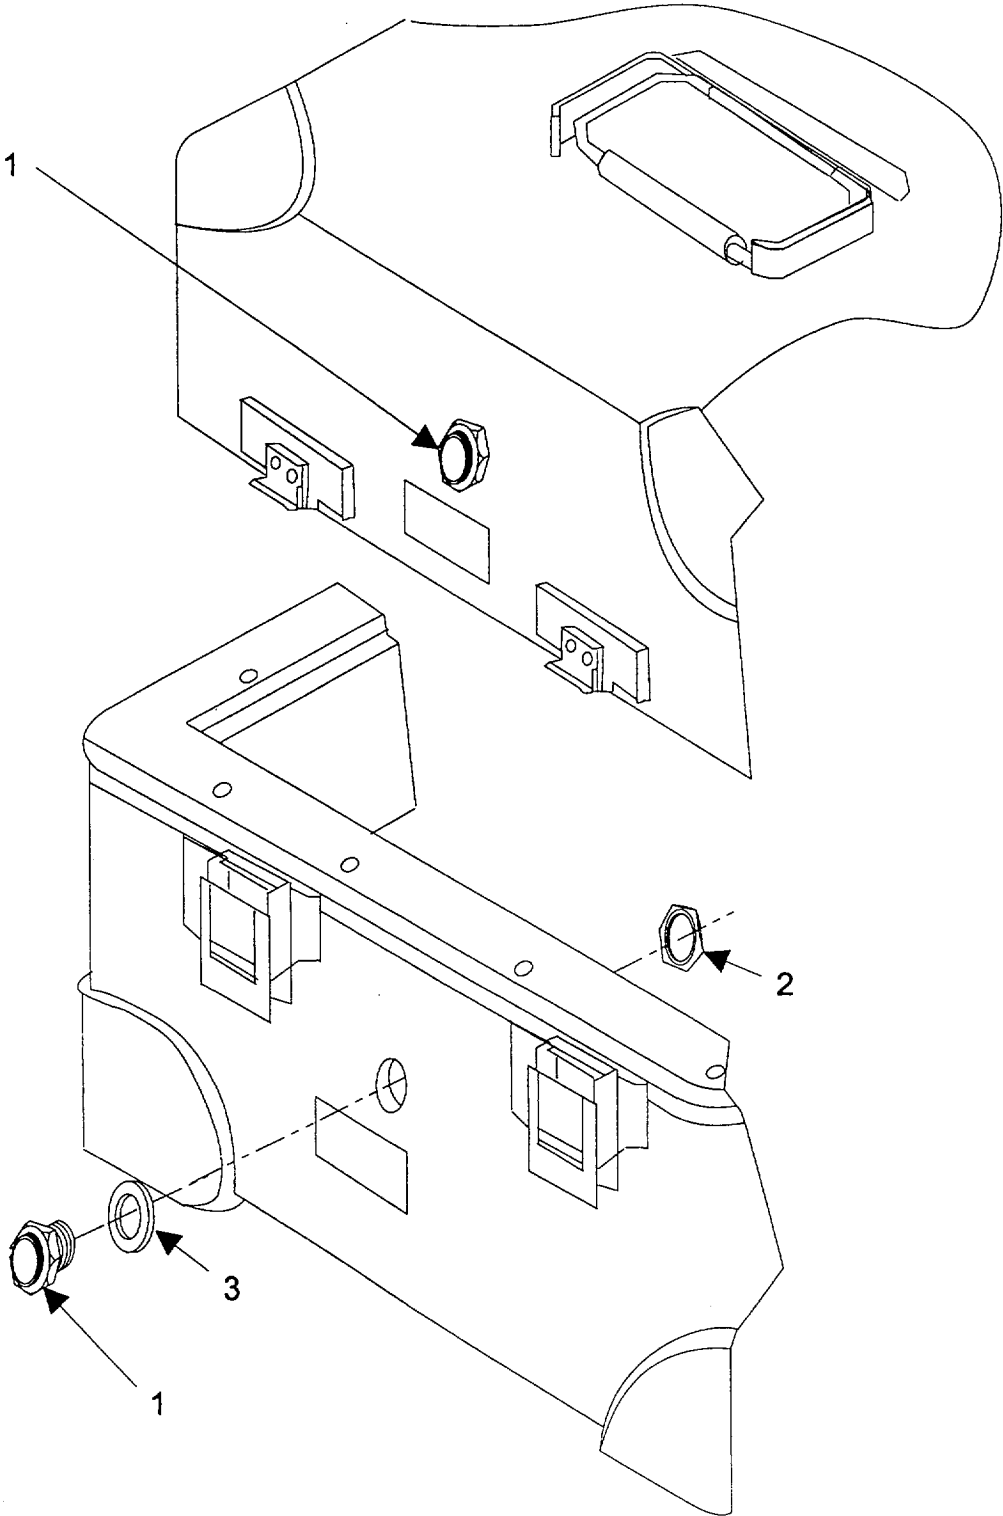

FIGURE 5-9.6. Pressure Relief Valves.
- (1) Disassemble FTS (refer to para. 5-7).
- (2) Remove inner nut (2, Fig. 5-9.6).
- (3) Remove core and body (1), and gasket (3) from case.